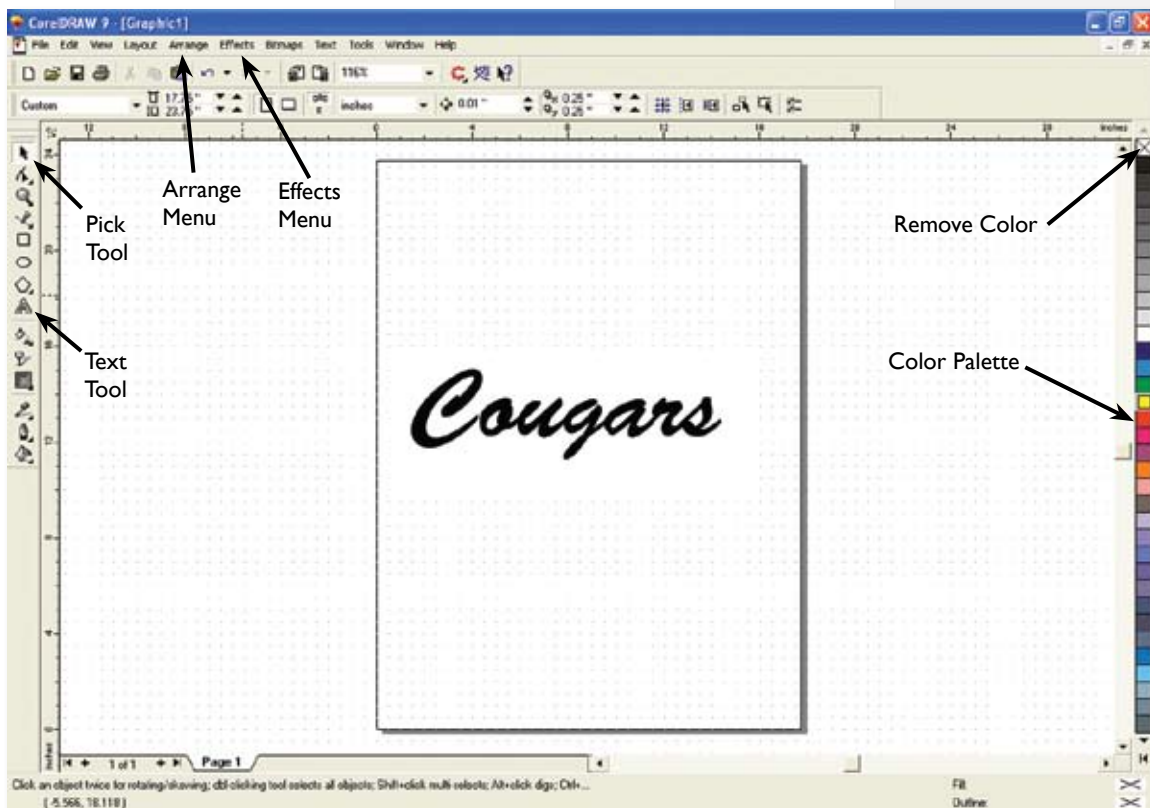

Figure 41. CorelDRAW!® main screen.
3. Type the word “**Cougars**”. Highlight the word with the mouse, or by pressing **Ctrl** and **Shift**, then the left **Arrow** on the keyboard (**Figure 41**).